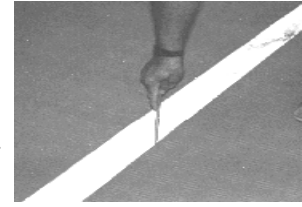

Fig 1
- Pencil line the trimmed edge (**Fig. 1**) to ensure proper alignment after adhesive application.